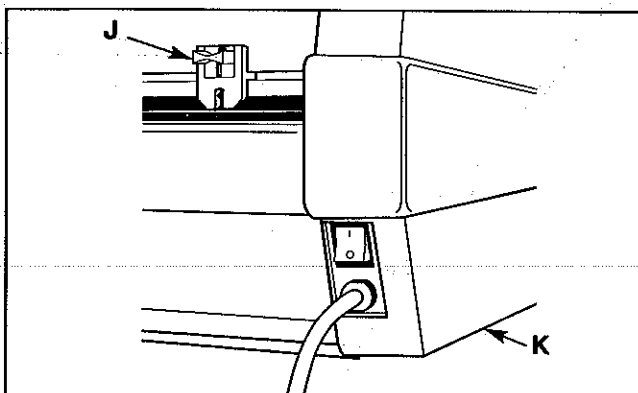

Figure 4
J. REAR SLITTER: Used to cut the film web where it exits the rear of the laminator (Figure 4).
K. CIRCUIT BREAKER: Electrical safety device, located under the left side cover, can be reset by the operator if tripped. (Figure 4).